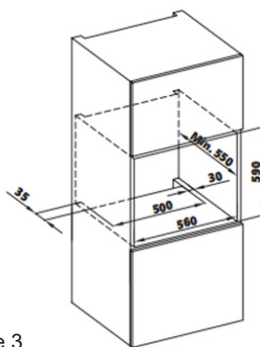

Figure 3
- The cabinet shall comply with the dimensions given in Fig. 3. In the rear part of the cabin, and at the top and bottom, clearances with the dimensions specified in the figure shall be ensured to provide the required ventilation.